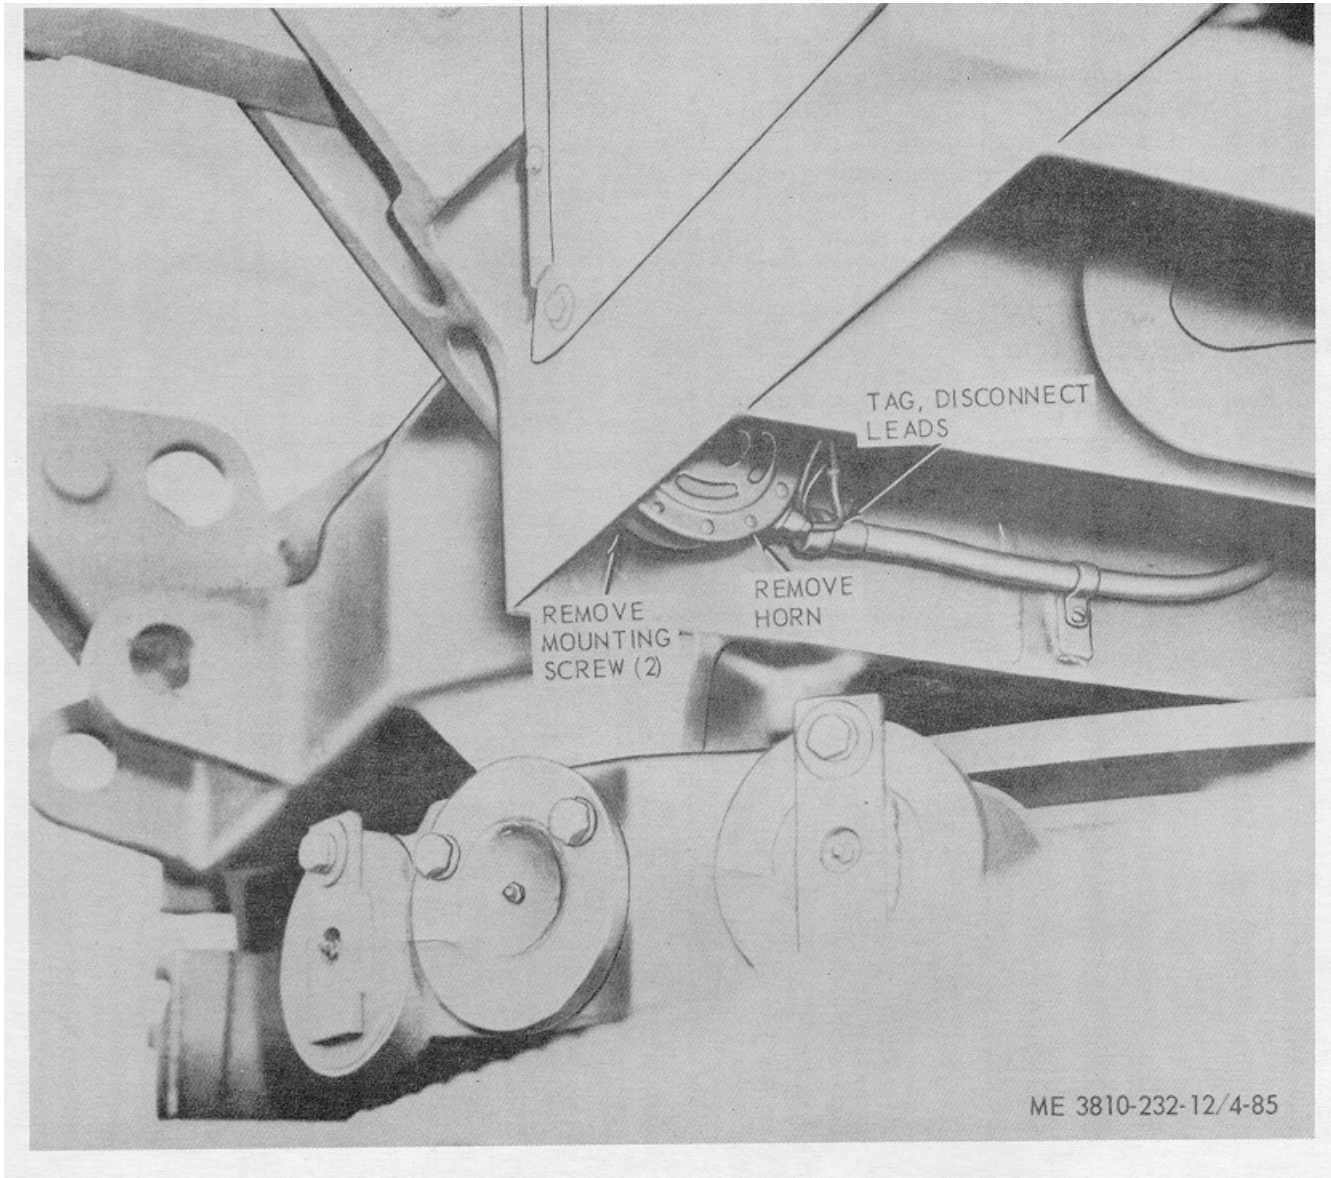

Figure 4-85. Crane horn, removal and installation.
a. *removal* Remove crane horn as illustrated in figure 4-85.
- (1) Clean horn with a damp cloth.
- (2) Inspect for defects or damage.
- (3) Replace defective or damaged parts.
- c. Installation. Install horn as illustrated in figure 4-85.